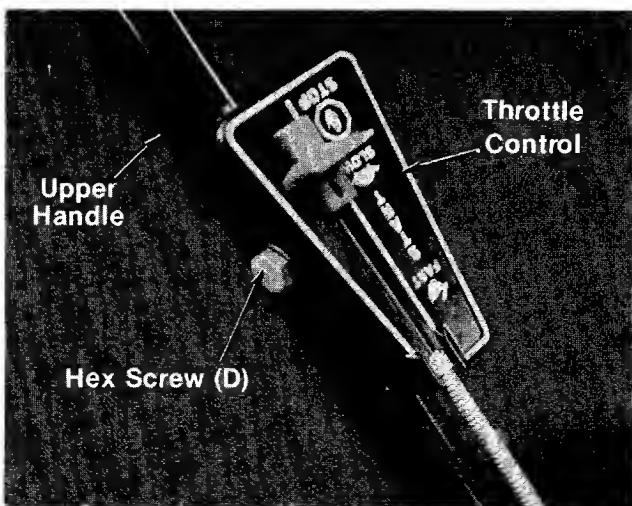

FIGURE 5.
5. Place the throttle control in position on the left hand side of upper handle. Secure with hex screw (D) and hex lock nut (E) provided. See figure 5.